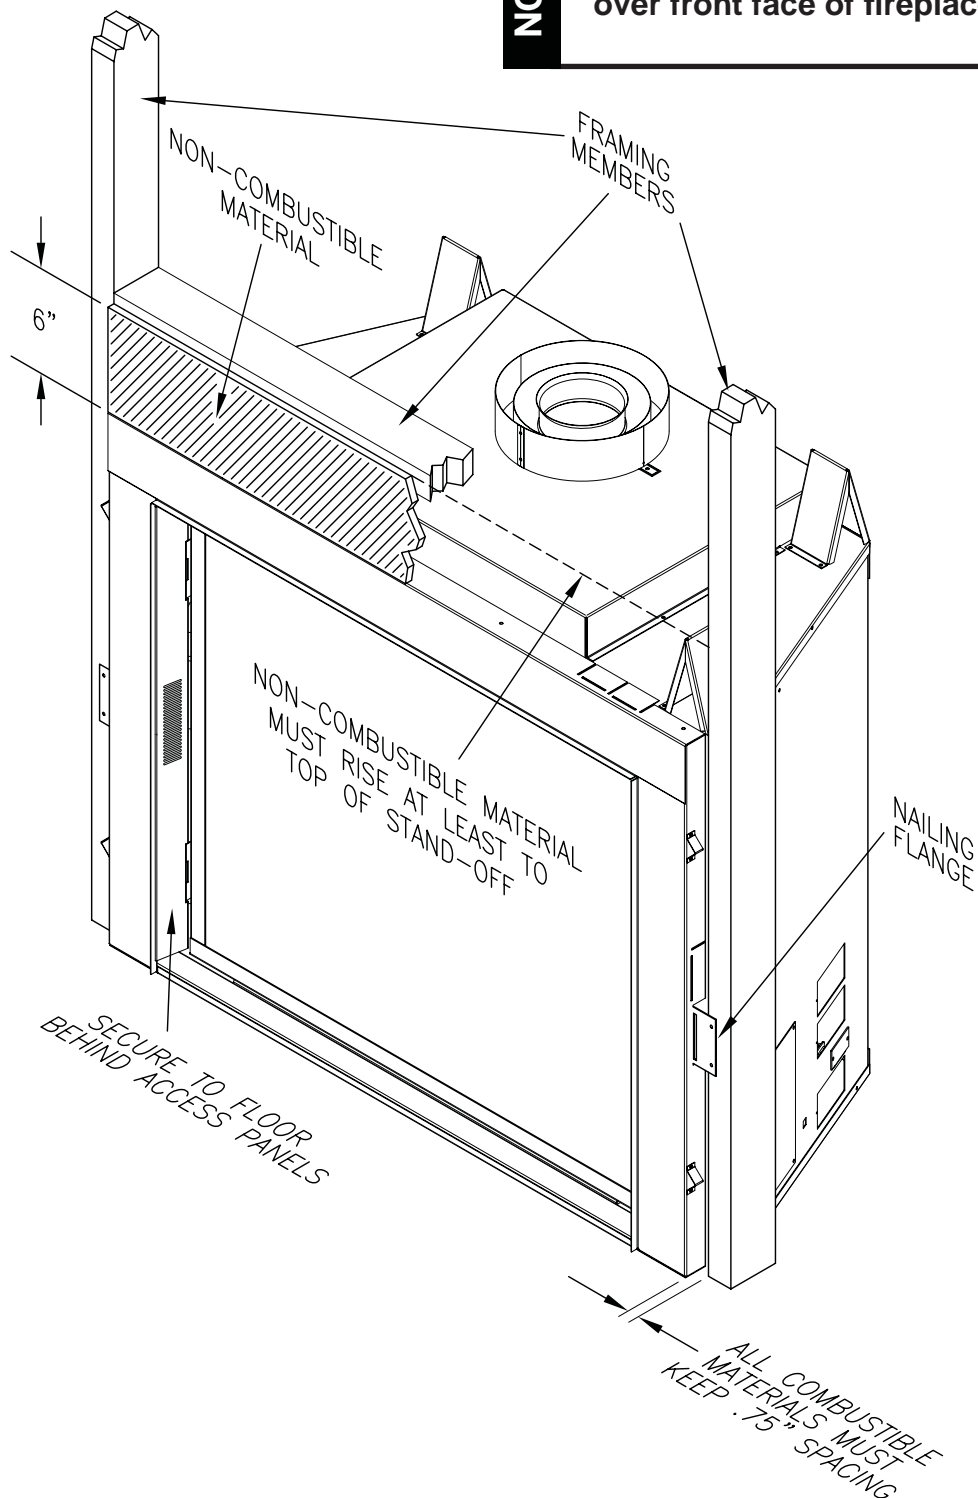

Figure 6 - Securing Fireplace to Floor and Framing Studs
The fireplace must be secured to the floor and/or to framing studs as shown in *Figure 6*. Use two (2) wood screws or masonry/concrete screws to secure fireplace to the floor. Use four (4) screws to attach fireplace to framing. The side nailing flanges are 1/2" or 5/8" to accommodate different wall thickness.